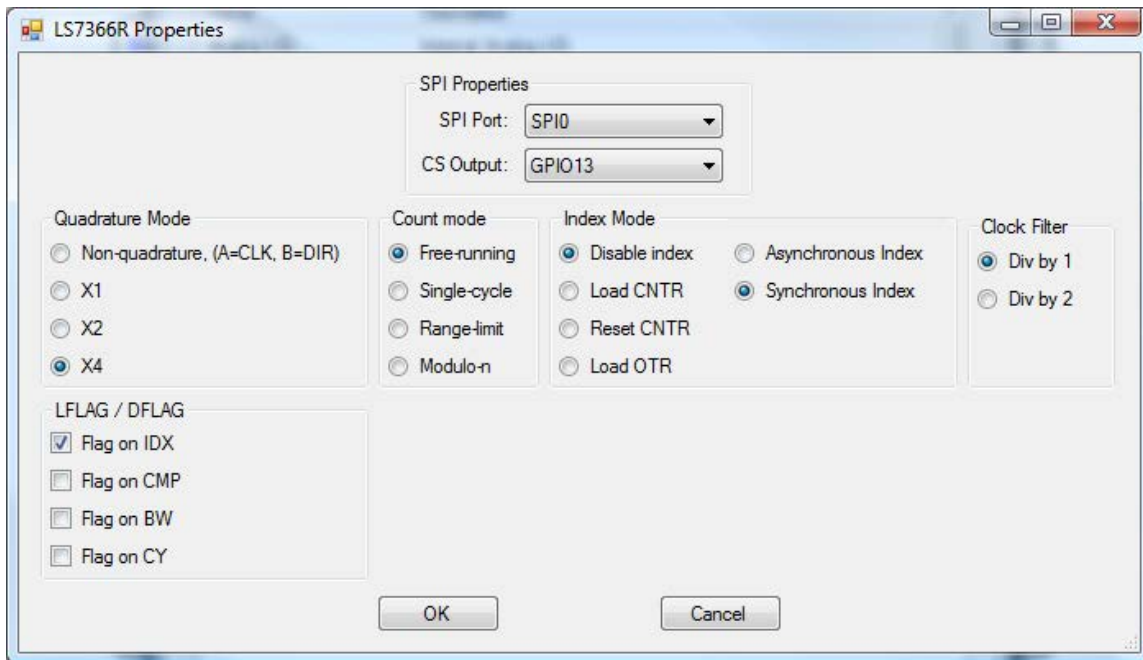

Figure 15-6
Select the SPI port from the drop down menu and select the general purpose output pin (GPO) that will serve as this device's chip select (CS). With these two devices selected, additional channel information will be available to configure. See Figure 15-6. Any chip select pins reserved for structured text will not be visible in the drop-down menu.